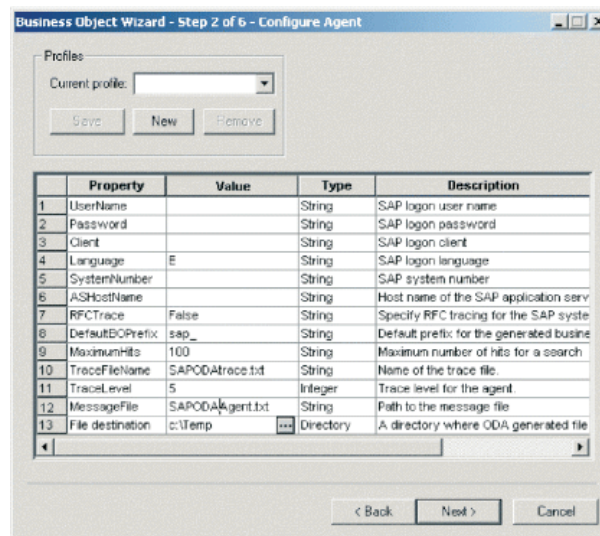

Figure 35. Configuring agent properties
The first time Business Object Designer Express communicates with SAPODA, it prompts you to enter a set of initialization properties as shown in Figure 35 on
The prefix is text prepended to the name of the business object to make it unique. If you are satisfied with the value you entered for the DefaultBOPrefix property in the Configure Agent window (Figure 35 on page 259), you do not need to change the value here.
- Prefix —If you are satisfied with the value you entered for the DefaultBOPrefix property in the Configure Agent window (Figure 35 on page 259), you do not need to change the value here.